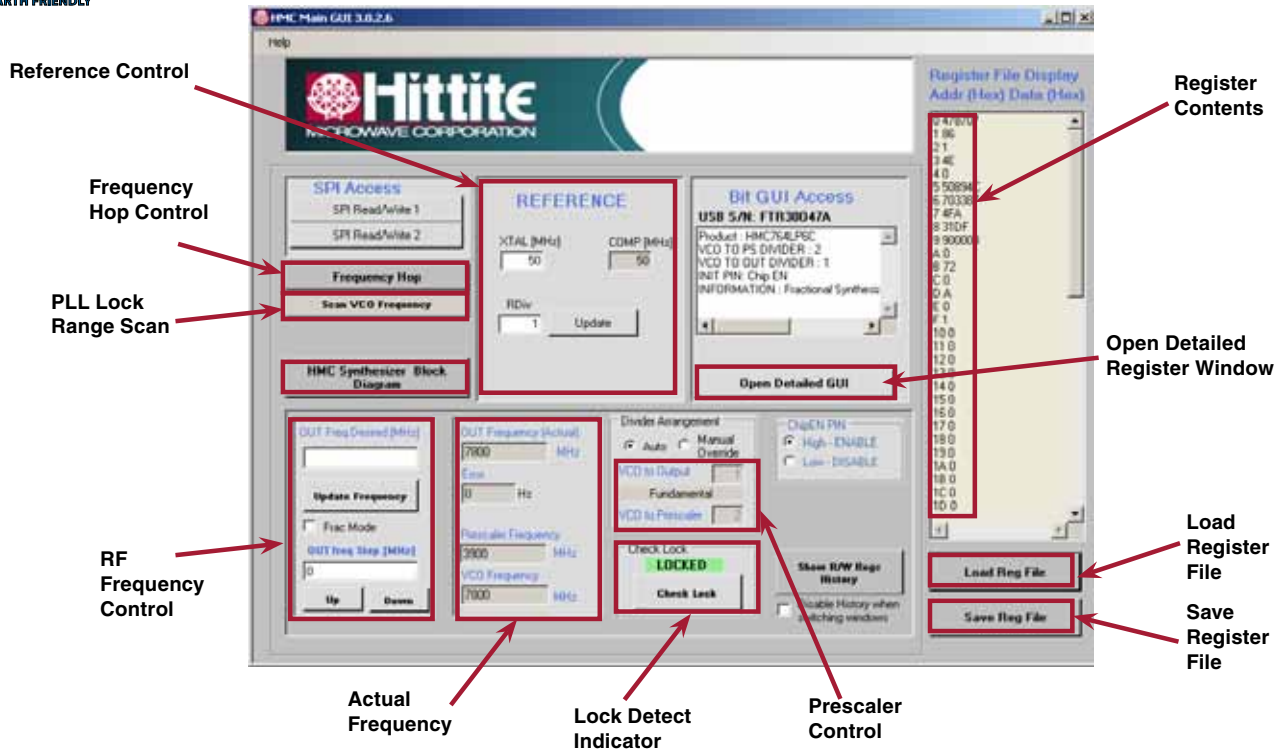
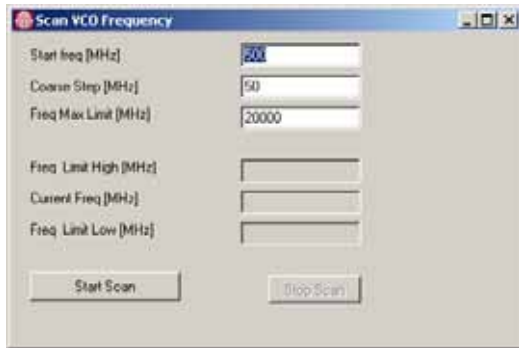
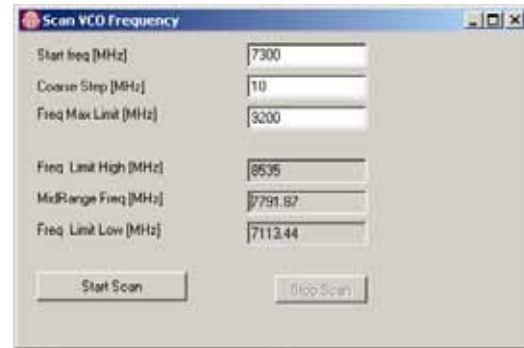

Figure 11. Main Control Window after Loading Register File
Figure 14. Default "Scan VCO Frequency" Window
Figure 15. Scan Setting and Scan Result on HMC764LP6CE
Step 7. Click “Load Reg File” button to load the register contents of the part (Figure 11).
Step 10. Scan the VCO frequency to find the PLL with Integrated VCO locked range (“Frac Mode” box must be checked). Click “Scan VCO Frequency” button in the main control panel (Figure 11). A new small window pops out as shown in Figure 14. Set “Start Freq”, “Coarse Step” and “Freq Max Limit”, click “Start Scan” button (refer to the specified Min/Max frequencies of the individual product data sheet, set “Start Freq” to Min frequency and set “Freq Max Limit” to 1 GHz above Max frequency). When the scan is finished, the PLL with Integrated VCO locked range will be shown in the window. As an example, Figure 15 shows the scan setting and scan result on HMC764LP6CE. Remember that the frequency lock range is greater than the specified frequency range and the phase noise or spurs will degrade outside of this specified window.
Click "Frequency Hop" button in the main control panel (Figure 11). A new small window pops out as shown in Figure 16. Set "Frequency #1", "Frequency #2" and "Dwell Time" in this window. Then click "Start" button. The RF signal will switch between "Frequency #1" and "Frequency #2" in the defined "Dwell Time". Figure 17 shows a typical example of the "Frequency Hop" setting on the HMC764LP6CE. This function usually is used to find the frequency settling time of the PLL with Integrated VCO.